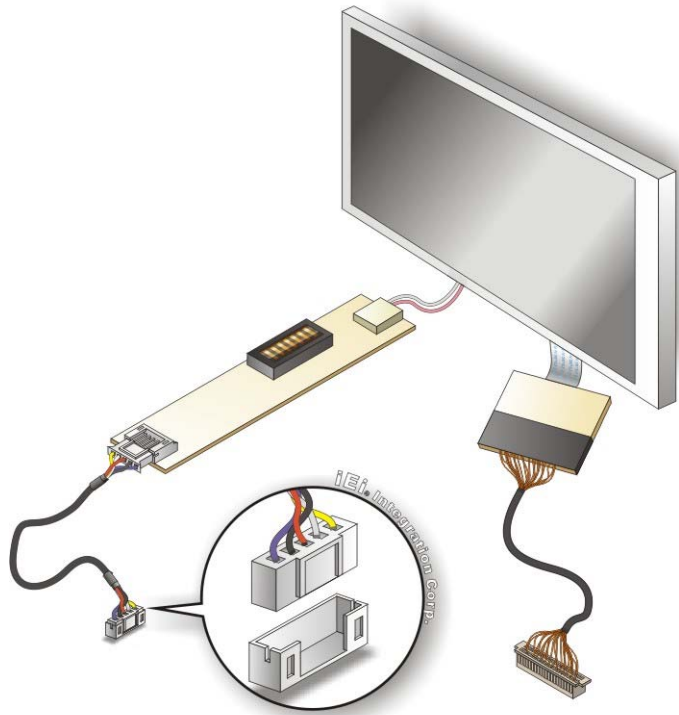

Figure 4-15: Backlight Inverter Connection
- Step 4:** **Connect backlight connector.** Connect the backlight connector to the driver TFT LCD PCB as shown in **Figure 4-15**. When inserting the cable connector, make sure the pins are properly aligned.